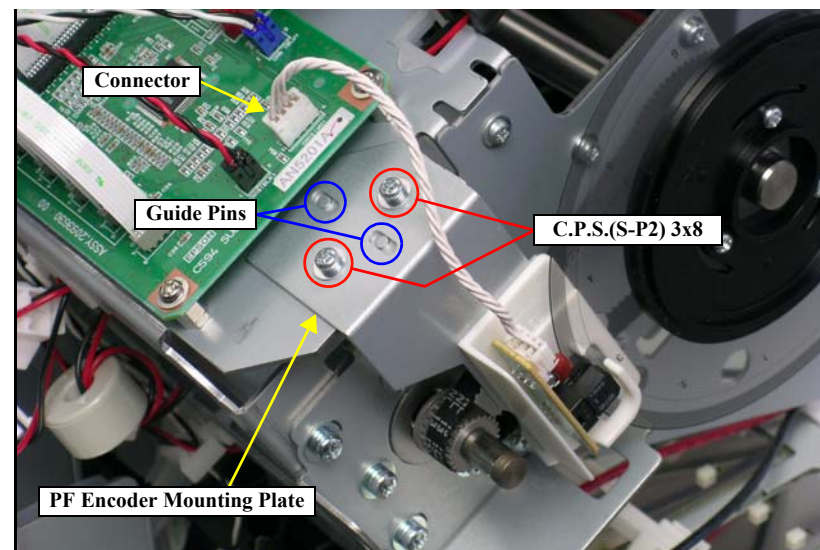

Figure 4-83. Removing the PF Encoder Mounting Plate
When performing the next step, be careful not to deform or damage the SCALE, PF. *See Figure 4-83.*
4. Disconnect the connector of the PF Encoder Sensor from the BOARD ASSY., SUB; C. *See Figure 4-83.*
5. Remove the two screws that secure the PF Encoder Mounting Plate and remove it. *See Figure 4-83.*
- Set the two positioning holes of the PF Encoder Mounting Plate onto the two guide pins. *See Figure 4-83.*